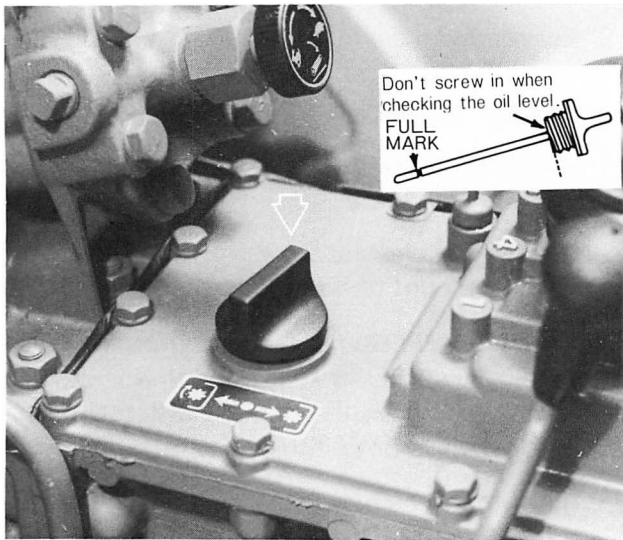

Figure 38 — Transmission, Rear Axle and Hydraulic system Oil Lever Dipstick/Filler Plug
1. With the tractor standing level and the engine off, check the oil level with the dipstick, Figure 38.
3. Remove the filler plug and dipstick, Figure 38, and fill with new oil of the type specified, page 28